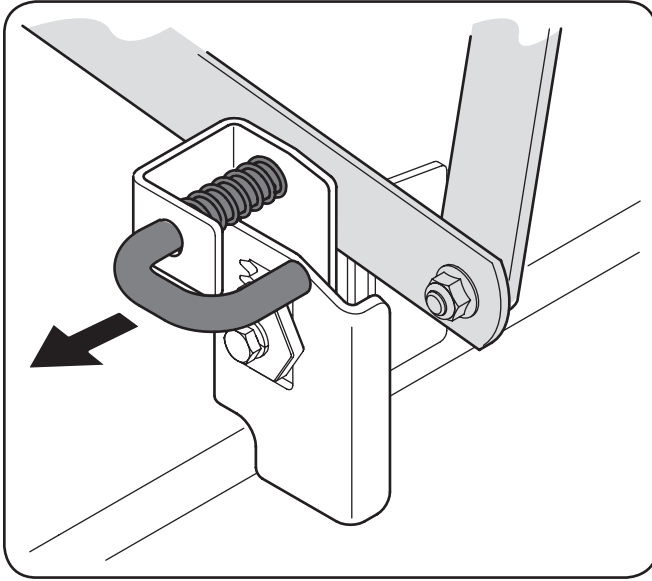

Figure 7-4
- Pull the deck support pin outward to release the deck from the lift arm. See Fig. 7-4.